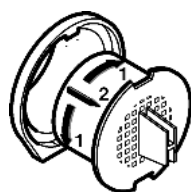

Fig. 5
- ▶ Turn it 90° to the right or left *Fig. 5 (1)*.
- ▶ Turn it 90° to the right or left *Fig. 5 (1)* until it clicks into place.